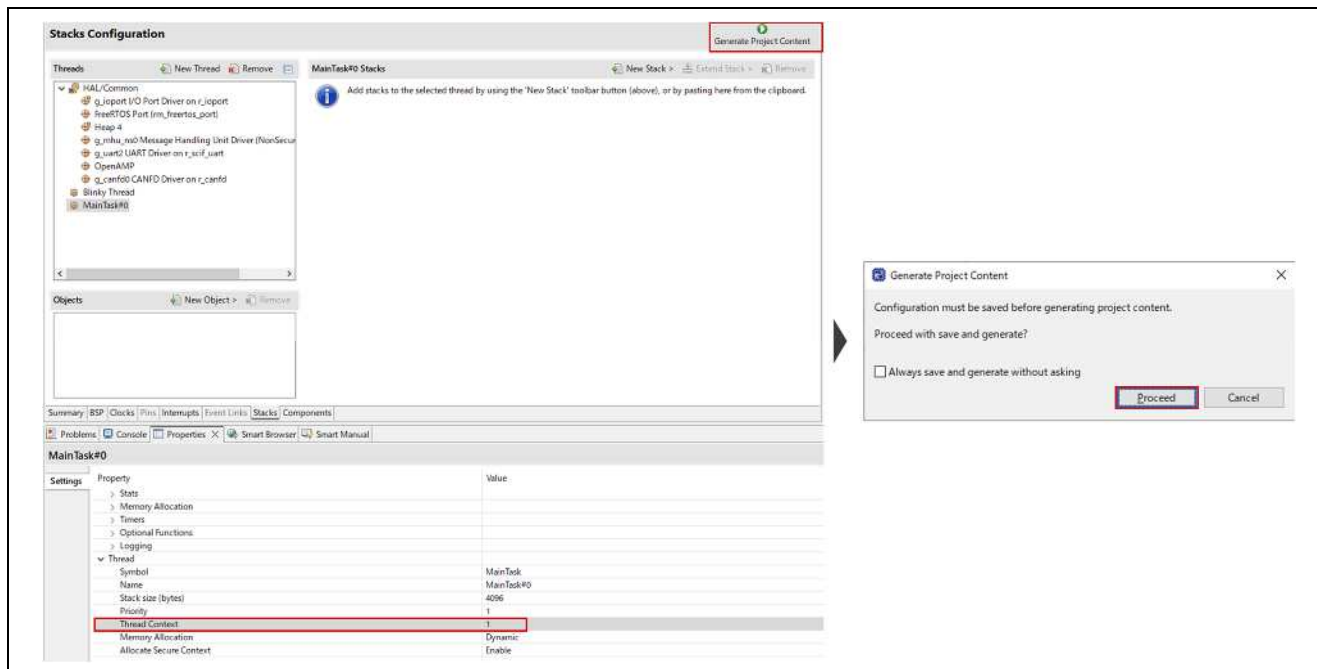

Figure 4-4. RPSmsg Channel Setting
1. Choose **rzg2l_cm33_rpmsg_linux-rtos_demo Debug_Flat** or **rzg2l_cm33_rpmsg_linux-rtos_demo Release_Flat** from the drop-down list indicated by a red arrow in Figure 4-4.